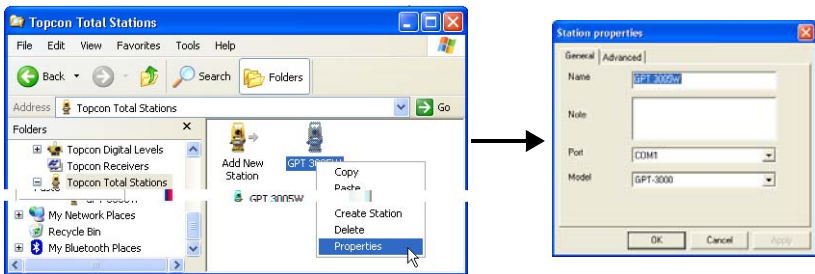

Figure 8-11. Changing the Total Station Properties
- A new icon for the Total Station will display in the right panel and a new sub-folder will be created in the *Topcon Total Stations* folder of the Windows Explorer. To change the properties (communication parameters, name, model) for this Total Station, right-click on the icon and select *Properties* on the pop-up menu. The **Station Properties** dialog box for the Total Station is identical to the **Create Station** dialog box for a new Total Station (Figure 8-11 on page 8-10).